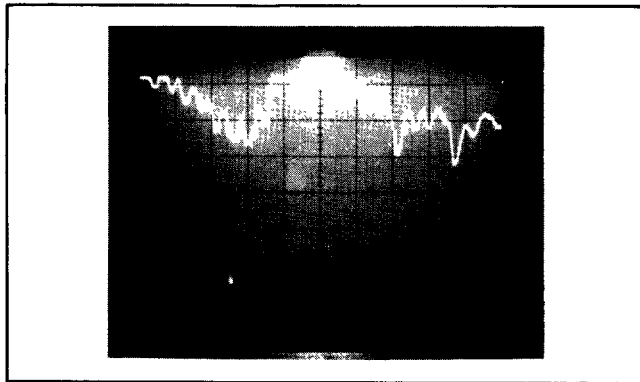

Figure 5-28. F1-F2 Sweep, Unleveled Power
3. a trace similar to that shown in Figure 5-28 should be observed.